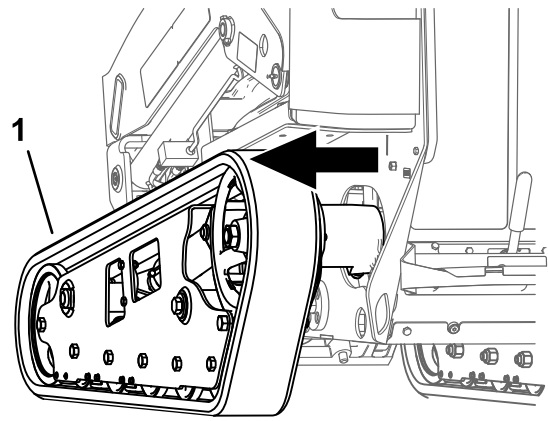

**Figure 6**
6. Loosen the rear bolt securing the rear track frame to the machine (Figure 6).